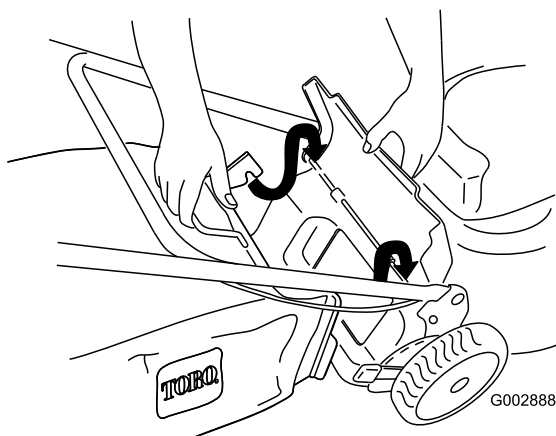

Figure 23
3. Install the bag onto the door rod (Figure 23).